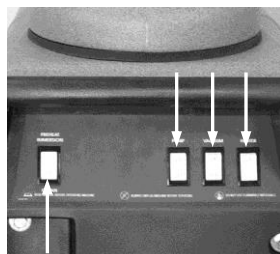

Fig. 5
1. Turn immersion heater to "clean" position and activate vacuum, pump, and heater switches. (Figure 5).